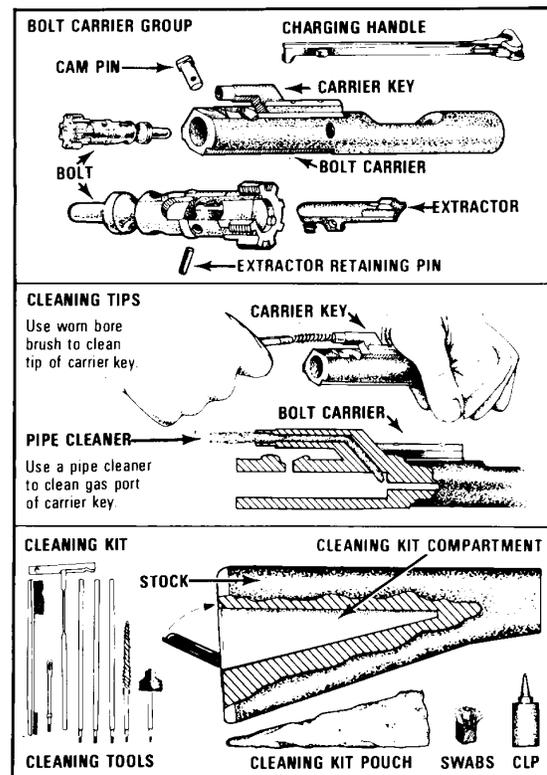

Figure 10-22. Cleaning the Bolt Carrier Group
- b. Clean the bolt carrier group, wiping the following parts with swabs and other parts from the small arms maintenance equipment case (figure 10-22).
- c. Clean the following rifle parts lightly lubricating with CLP (figure 10-22).